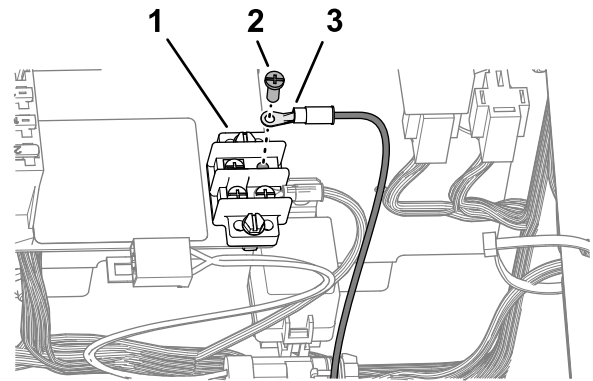

Figure 19
1. Remove one terminal screws from the ground block (Figure 19).
2. Install the ring terminal labeled HORN GROUND of the kit wire harness to the ground block with the terminal screw (Figure 19).